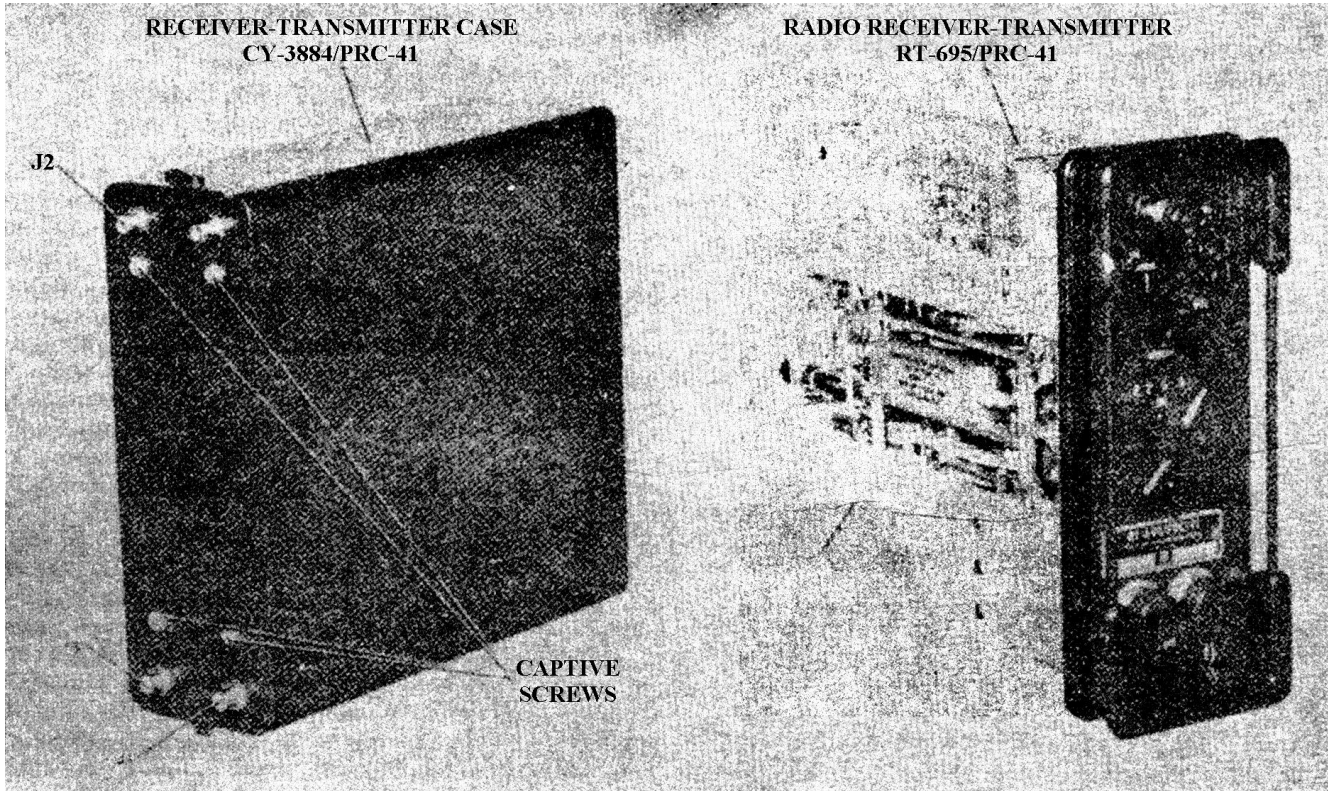

Figure 1-4. Radio Receiver-Transmitter RT-695/PRC-41
(2) RADIO RECEIVER - TRANSMITTER RT-695/PRC-41. - Radio Receiver-Transmitter RT-695/PRC-41 consists of a main chassis with eight plug-in modules, a control panel, and a waterproof dust cover (Receiver-Transmitter Case CY-3884/PRC-41). Refer to figure 1-4. The modules are removable from the main chassis by loosening captive screws on each module. All electrical connections between the modules and the main chassis are made through multipin connectors on each module to jacks mounted on the main chassis. The coaxial
(3) RECEIVER-TRANSMITTER CASE CY-3884/PRC-41. - Receiver-Transmitter Case CY-3884/PRC-41 is a dust cover for Radio Receiver-Transmitter RT-695/PRC-41. Refer to figure 1-4. The CY-3884/PRC-41 is secured to the RT-695/PRC-41 by four captive screws which are located at the rear of the CY-3884/PRC-41. With the CY-3884/PRC-41 in place on the RT-695/PRC-41, primary power is applied through pressure contacts located at the rear corners to the contacts centrally located on the inside rear of the CY-3884/PRC-41. The power is then available to the pressure contacts at the rear of the main chassis of the RT-695/PRC-41 and hence to the power distribution circuits of the RT-695/PRC-41.
(4) STORAGE BATTERY BB-451/U.